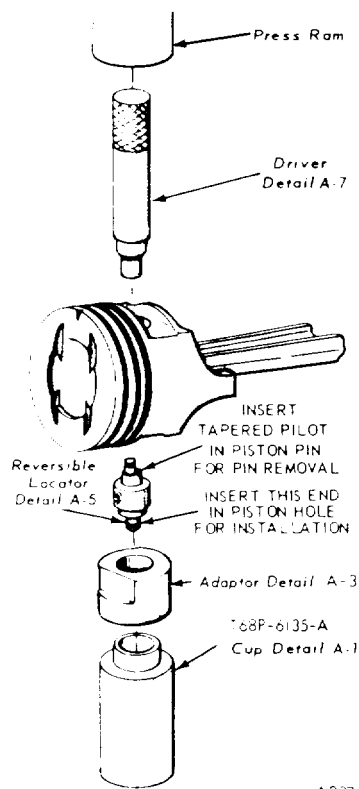

FIG 63 Removing or Installing Piston Pin
3. Using an arbor press and the tool shown in Figure 63. Press the piston pin from the piston and connecting rod. Remove the piston rings.
2. Start the piston pin in the piston and connecting rod (this may require a very light tap with a mallet). Using an arbor press, press the piston pin through the piston and connecting rod until the pin is centered in the piston (Figure 63).